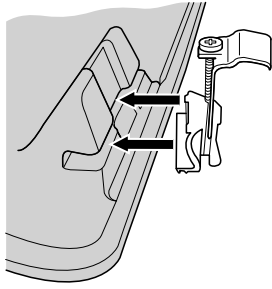

Fig. 1.9
2. Tap the pins on the clamps until the ends of the pins are level with the top edge of the clamps (**Fig. 1.9**).